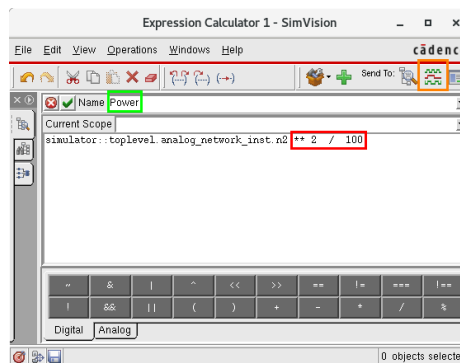

Figure 24: Expression calculator
10. The expression calculator should open. Now you can use the formula $p = \frac{v^2}{R}$ to calculate the dissipated power. Add what is in the red box of Figure 24. Give your newly calculated waveform a proper name (e.g. "Power" as indicated in the green box), and send it to the waveform window by pressing the tab indicated by the orange box in the upper right corner.